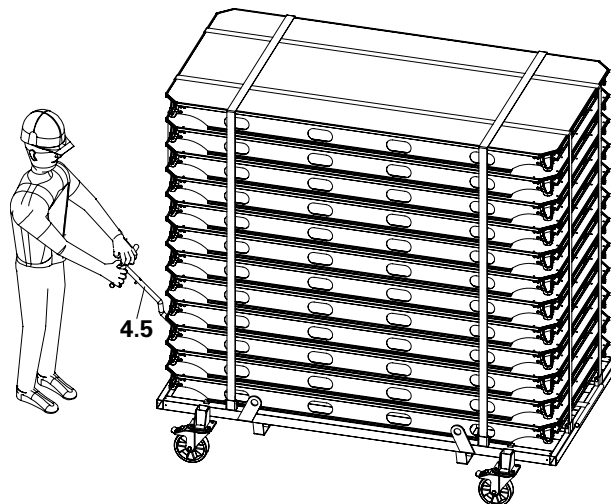

Fig. A1.05
1. Pull the handle (4.5) and use it to move the pallet AD (4) manually to next location. The handle (4.6) is in docked condition. (Fig. A1.05)